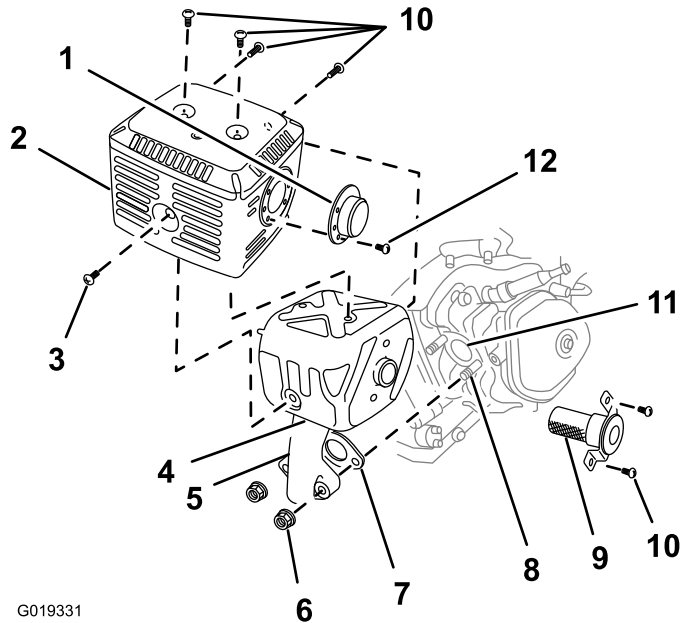

Figure 49
5. Remove the 2 nuts (8 mm) and remove the muffler from the cylinder (Figure 49).
6. Remove the 3 screws (4 mm) from the exhaust deflector, and remove the deflector (Figure 49).
7. Remove the screws (5 mm and 6 mm) from the muffler protector, and remove the muffler protector (Figure 49).
8. Remove the screws (4 mm) from the spark arrester, and remove the spark arrester from the muffler (Figure 49).